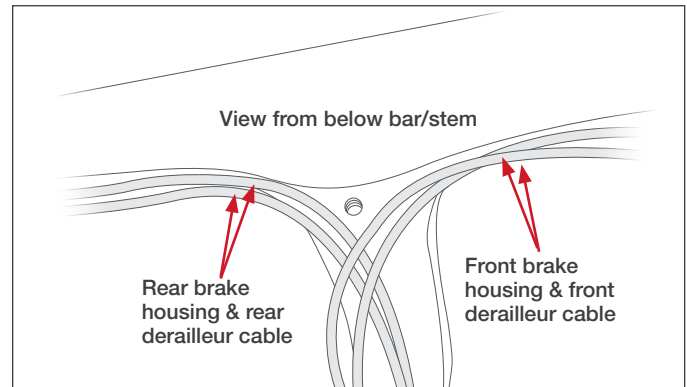

Figure 1
2. Check for correct cable routing (cables cross under the stem). See Figure 1.